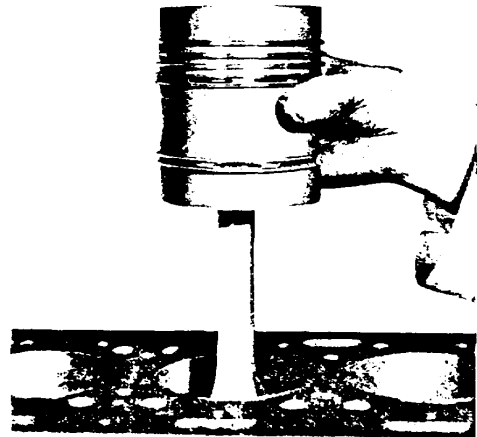

Fig. F.2.
5. Push pistons and connecting rods out of the top of the cylinders (Refer Fig. F.2).